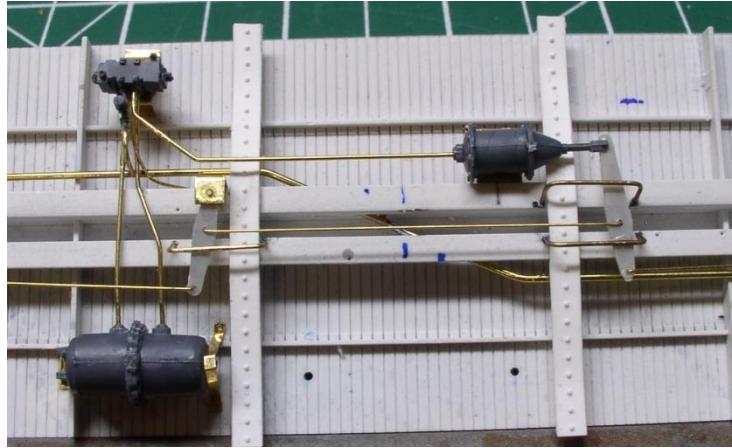

Figure U23
25. Mark the centre of the car on the side sill. Drill two holes in the floor to accept the rods in the top of the pipes 6" forward of the lateral stringer. See Figure U23.